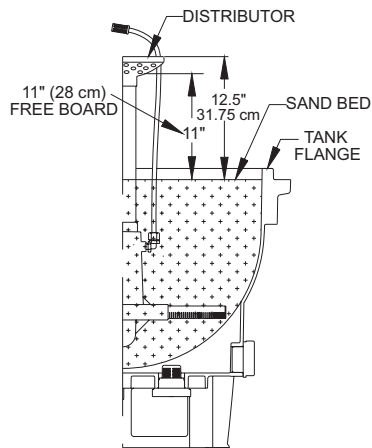

Figure 2 - Freeboard measurement
4. When full, top of sand bed should be about 12-1/2” (31.75 cm) below top of distributor (about 1-1/2” (3.8 cm) below tank flange (see Figure 2).